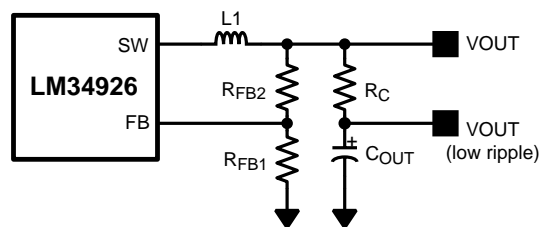

Figure 9. Low Ripple Output Configuration
This regulator regulates the output voltage based on ripple voltage at the feedback input, requiring a minimum amount of ESR for the output capacitor (C_{OUT}). A minimum of 25 mV of ripple voltage at the feedback pin (FB) is required for the LM34926 device. In cases where the capacitor ESR is too small, additional series resistance may be required (R_C in Figure 9).
For applications where lower output voltage ripple is required the output can be taken directly from a low ESR output capacitor, as shown in Figure 9. However, R_C slightly degrades the load regulation.